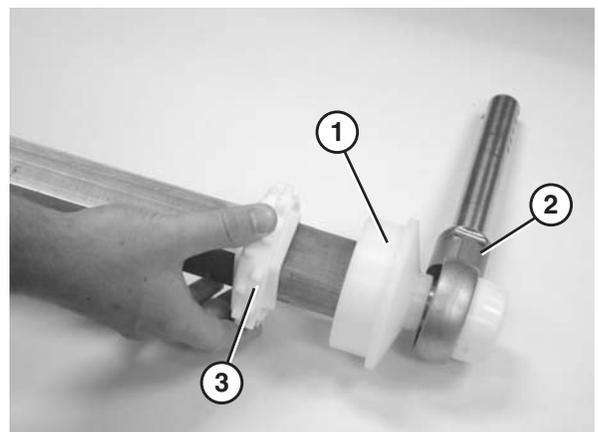

Figure 78
1. Attach a flanged puck (**Figure 78, item 1**) and bearing shaft assembly (**Figure 78, item 2**) to the shorter end of the drive spindle.
2. Slide the first sprocket (**Figure 78, item 3**) onto the drive spindle.